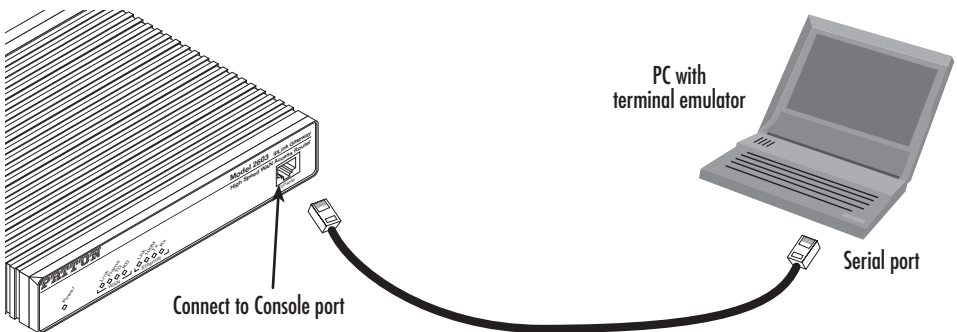

Figure 1. Connecting IPLink to the PC's serial port
1. Using the included combination RS232/Ethernet cable and DB9-RJ45 adapter, connect a PC's serial port to the IPLink's *Console* port (see figure 1).